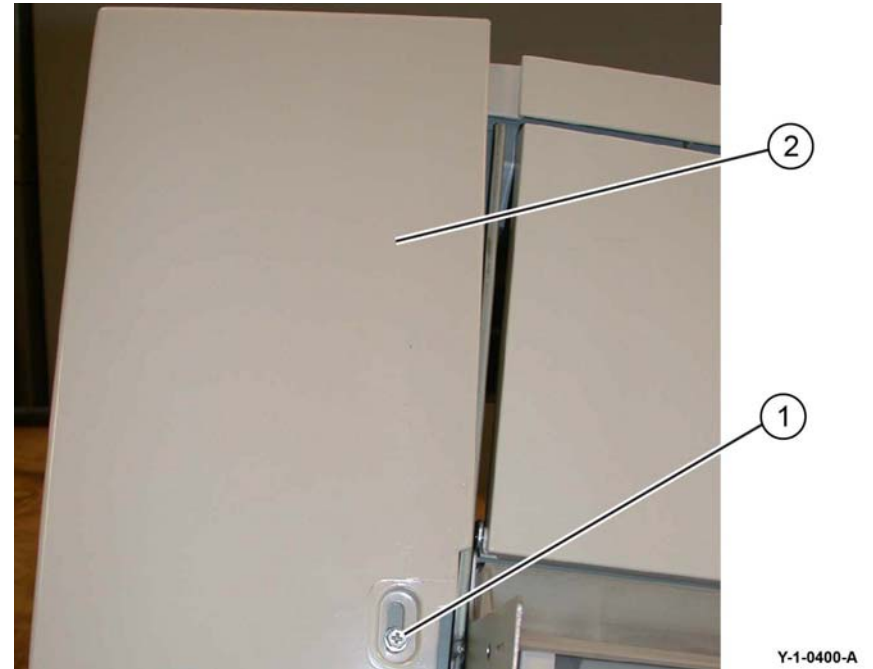

Figure 2 Booklet rear cover removal
4. Remove the screw (1), then the booklet rear cover (2), Figure 2.